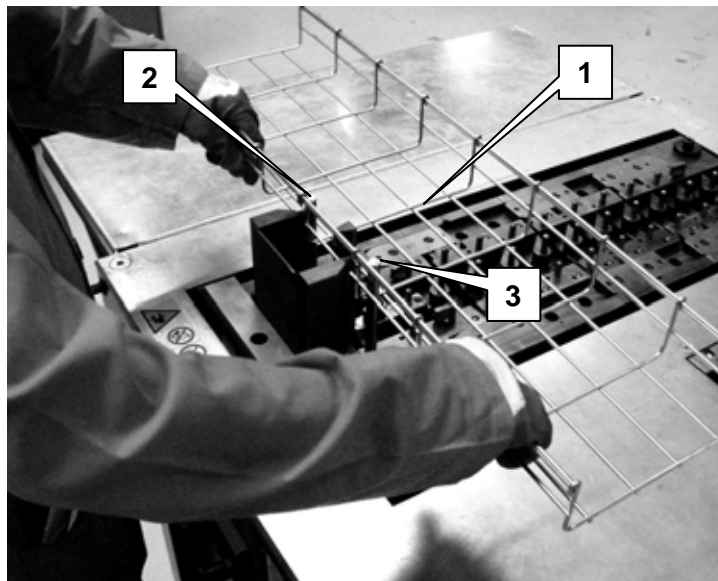

Fig. 4.65 – Gangway positioning
3. insert the median sector of the bend/curve to be worked **1** as shown in fig. 4.65, making sure that wires are properly positioned between pivots **2** and **3** through all its width (fig. 4.65).